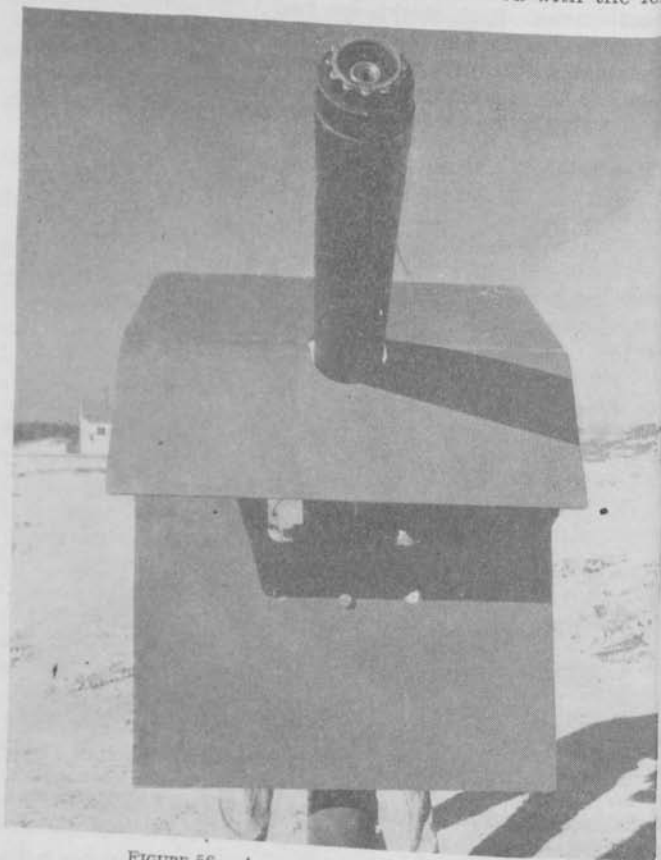

FIGURE 56.—Armor shield on M2A1 mount.
■ 91. ARMOR SHIELDS.—Armor shields are provided for the protection of gunners. (See fig. 56.) This protection for M2 (and M2A1) mounts, consists of an upper and a lower shield of armor plate, each $\frac{1}{4}$ inch thick and 32 inches wide. The lower shield is bolted to the pintle of the mount by means of